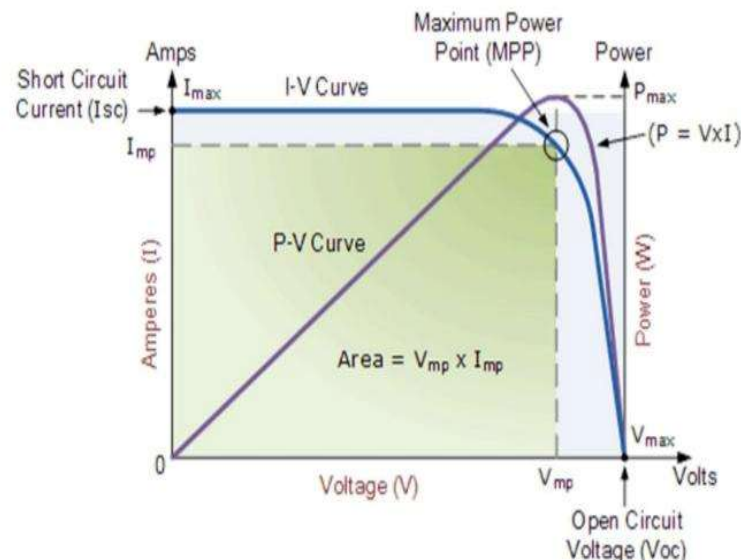

Fig. 3: A typical I-V curve and power curve of a solar cell
The "fill factor", more commonly known by its abbreviation "FF", is a parameter which, in conjunction with V_{oc} and I_{sc} , determines the maximum power from a solar cell. The FF is defined as the ratio of the maximum power from the solar cell to the product of V_{oc} and I_{sc} . Graphically, the FF is a measure of the "squareness" of the solar cell and is also the area of the largest rectangle which will fit in the IV curve as shown in Fig. 3.
4. Plot I-V curve for each frequency and estimate short circuit current, no load voltage. Determine the maximum power output at the turning points on the curves (marked by a circle in Fig. 3).